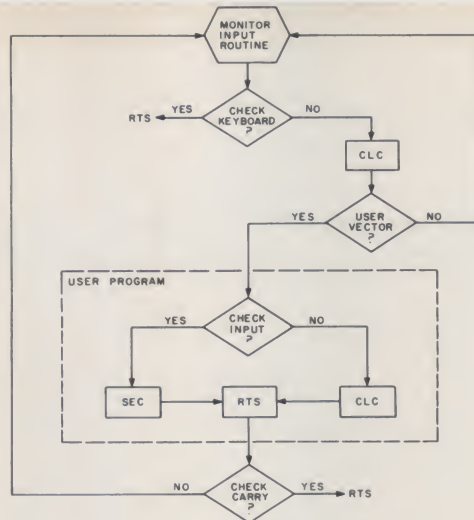

Fig. 2. Flowchart for User Input Function.
sure to end your subroutine with an RTS (39) and don't trap the routine; otherwise you can't use the keyboard until you have had an input from the peripheral and it falls back through the loop. By the way, put the input character in the A accumulator. For further understanding of the routine, look at the flowchart in Fig. 2.